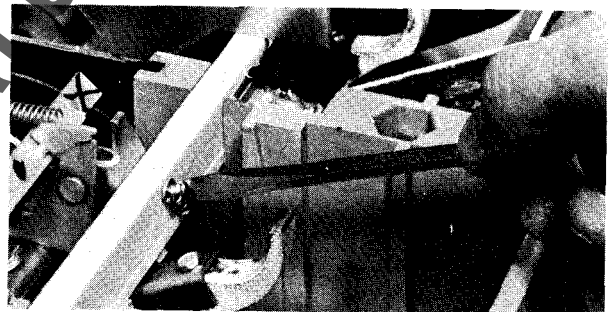

Figure 43.
5. Secure auxiliary switch assembly to arm stop with two #8 x 9/16 screws and lock washers (Fig. 43). Tighten to 23 inch-pounds.